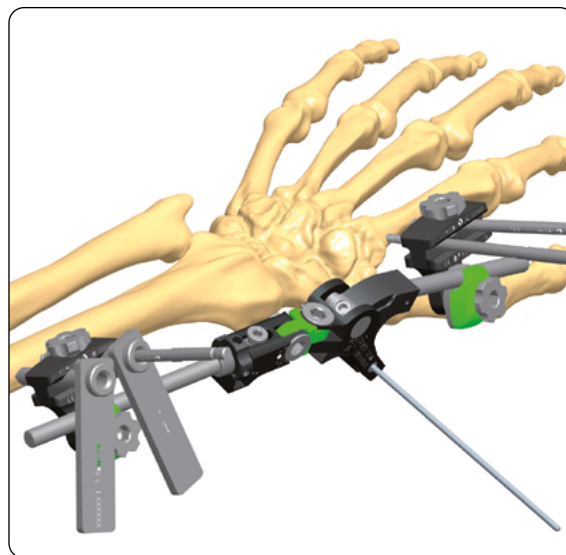

Fig. 20
- Insert the proximal screws following one of the below screw insertion techniques (**Fig. 20**):